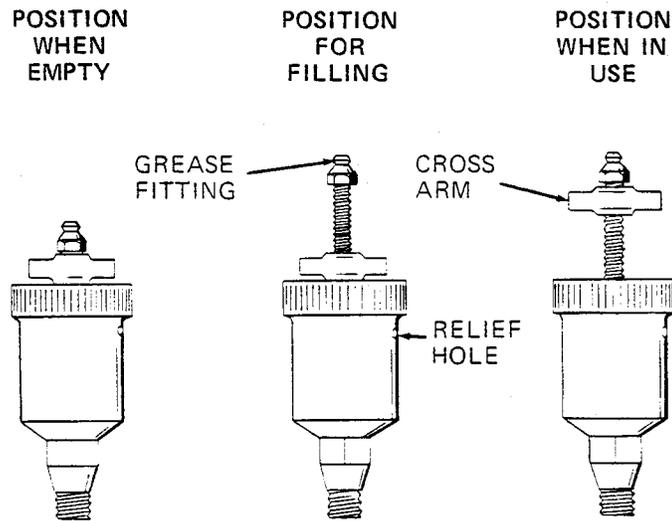

Figure 3. Automatic Lubricating Grease Cup
Before removing the seal assembly, turn the cross arm on the seal grease cup (28) clockwise until it rests against the cover (see figure 3). This will prevent the grease in the cup from escaping after the seal is removed.
Before starting the pump, fill the grease cup through the grease fitting with a good grade of No. 2 pressure gun grease until grease escapes from the relief hole. Turn the grease cup arm counterclockwise until it is at the top of the stem; this will release the spring to apply grease to the seal (see figure 3).